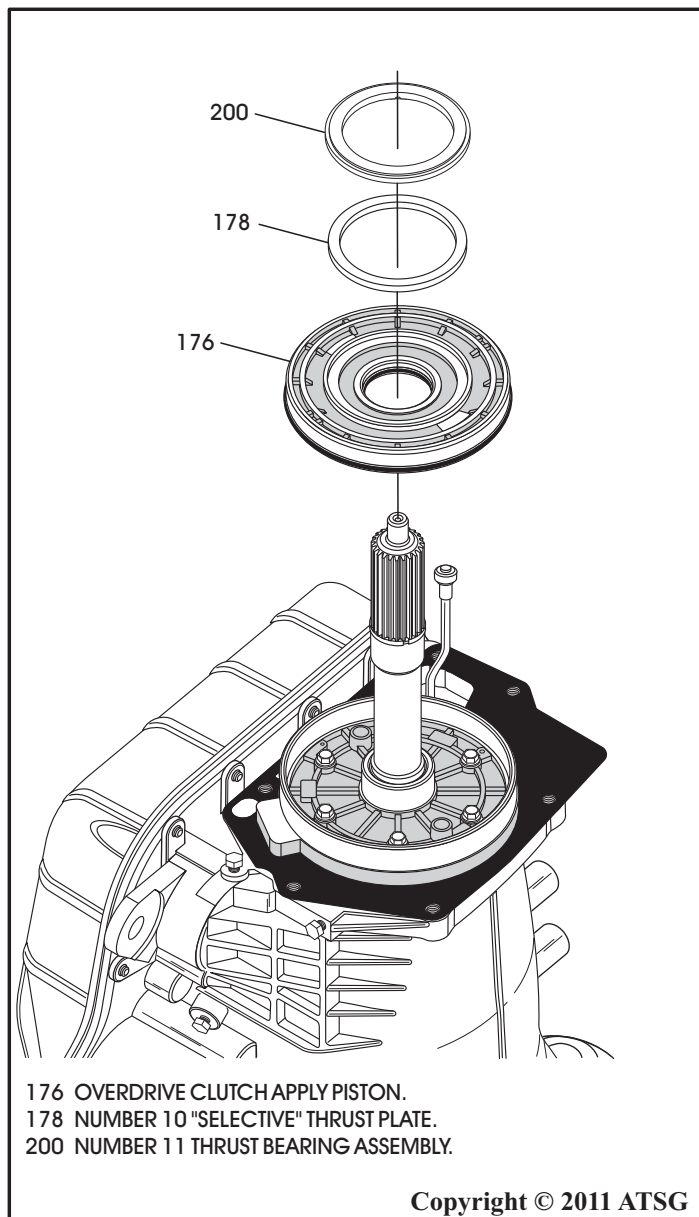

Figure 67
17. Remove the number 11 thrust bearing, as shown in Figure 67.
18. Remove the number 10 thrust plate, as shown in Figure 67.
19. Remove the overdrive clutch piston, as shown in Figure 67.